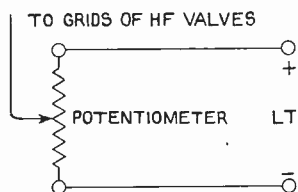

Fig. 5.
arrangement for building a coil to be used as a tuned anode coil is not very suitable. The self capacity of a coil constructed on the principle suggested would be very large indeed. We suggest you use an ordinary honeycomb winding. (3) The reason why you hear the carrier wave of the transmitting station very loudly and the telephony only faintly is due largely to the adjustment of the transmitting apparatus. Modulation is very incomplete, and the speech waves produce more or less a ripple upon the continuous waves transmitted. (4) The arrangement is given in Fig. 5. The grid connections are taken to the sliding contact of the potentiometer which is joined across the L.T. battery.
(1) See Fig. 5, page 356, December 9th issue. (2) The natural wavelength is of the order of 120